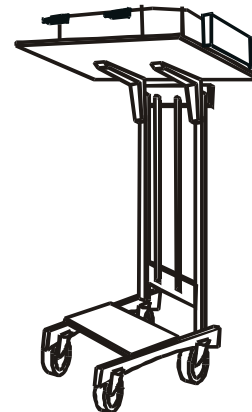

Figure 2
- Installation of the unit will be facilitated by using a stacker and inserting a plywood sheet between the unit and the elevated stacker.(Figure 2)